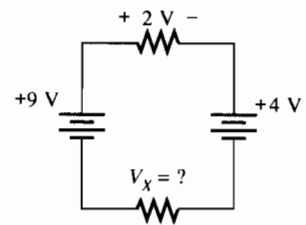

Figure 7-5
4. Use Kirchhoff's voltage law to find V_x in Figure 7-5: